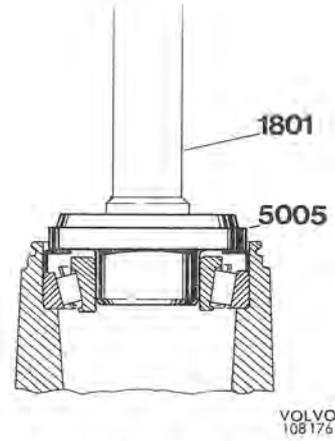

Fig. 7-25. Fitting seal
- Use a high-class bearing grease for the bearing. Place the inner bearing in position in the hub. Press in the washer until it lies against the bearing outer ring. Use tools 1809 and 5005, see Fig. 7-25. Without the tools, however, press the rubber ring onto the steering knuckle until it bottoms.